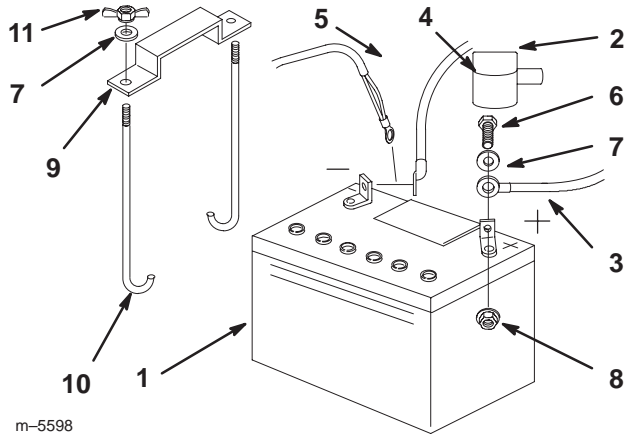

Figure 65
1. Position battery in tray with terminal posts toward the engine (Fig. 65).
4. Secure the cables with 2 bolts (1/4 x 3/4 inch), 2 washers (1/4 inch), and 2 locknuts (1/4 inch) (Fig. 65).
6. Secure battery with J-bolts, hold down clamp and 2 washers (1/4 inch), and 2 wing nuts (1/4 inch) (Fig. 65).
4. First disconnect the negative battery cable and ground wire from the negative (-) battery terminal (Fig. 65).
5. Slide the red terminal boot off the positive (red) battery terminal. Then remove the positive (red) battery cable (Fig. 65).
6. Remove both wing nuts (1/4 inch) securing the battery clamp (Fig. 65).